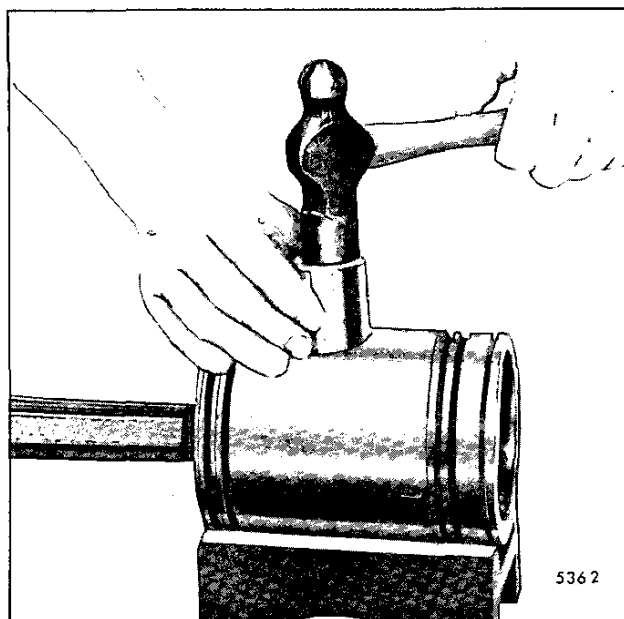

Fig. 16 – Installing Piston Pin Retainer Using Tool J 35572
9. Place a new piston pin retainer in position. Then, place the crowned end of installer J 35572 against the retainer and strike the tool just hard enough to deflect the retainer and seat it evenly in the piston (Fig. 16).